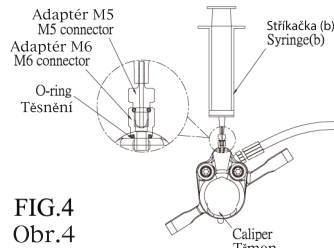

FIG. 4
- Fix syringe (B) on the caliper via M6 and M5 connectors. Turn the nipple of oil through up and open the syringe (A) onto the bleeder nipple tightly, as shown on fig. 4.